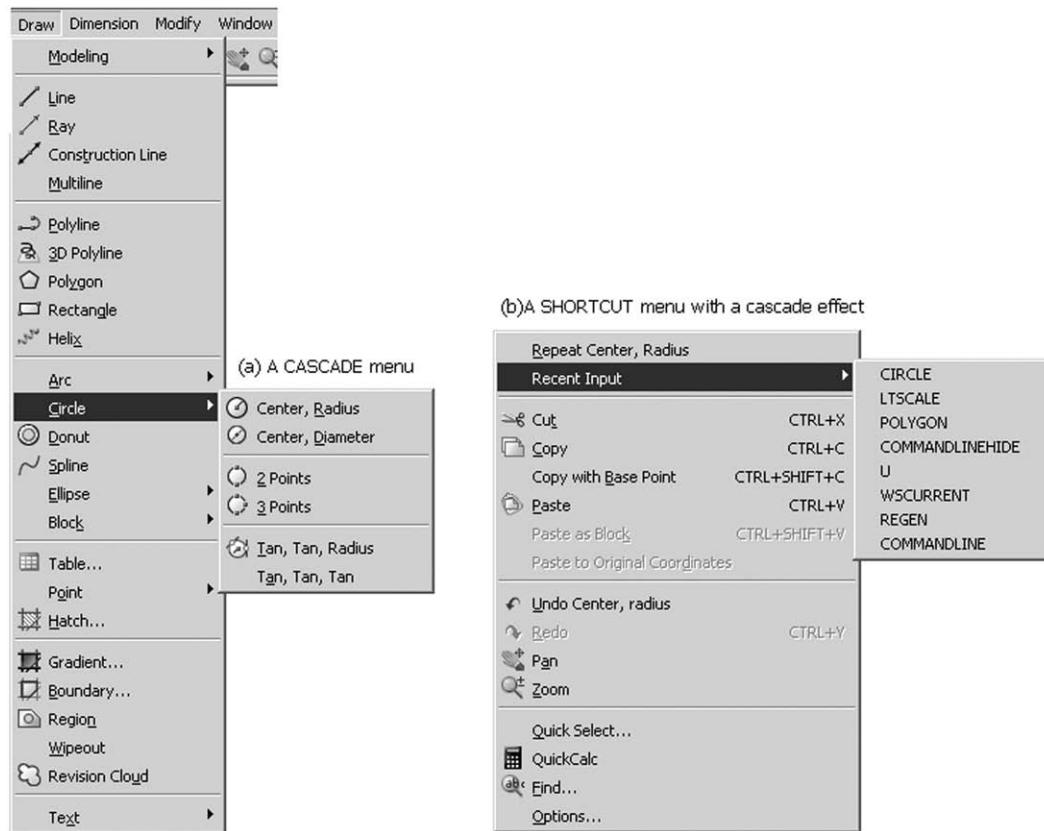

Figure 2.2 (a) A CASCADE menu and (b) a SHORTCUT menu.
- 1 From the menu bar select the sequence **Draw-Circle** and the cascade effect as Figure 2.2(a) will be displayed.
- 4 Figure 2.2(b) displays a typical shortcut menu with a cascade effect.